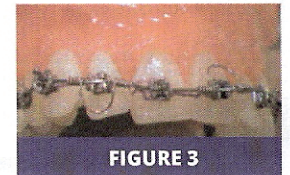

FIGURE 3
1. When torquing any of the four anterior teeth, you should figure 8 tie with an .010 steel ligature wire from cuspid to cuspid prior to archwire placement. This will prevent the crowns from tipping. When torquing a cuspid or bicuspid, you should figure 8 tie from 2nd bicuspid to 2nd bicuspid. (fig 3)